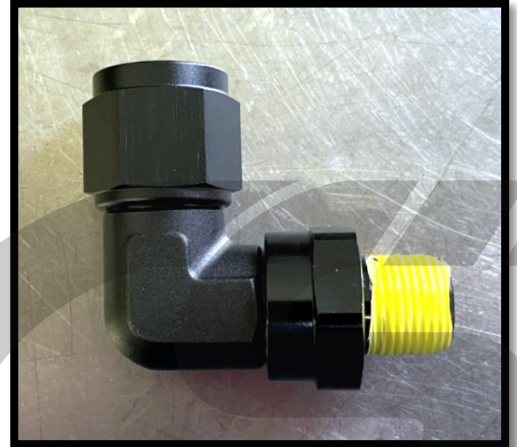

Figure 10b
- b) Locate the supplied 11389 fitting. Apply fuel/oil safe PTFE thread tape or sealant to the threads as shown in **Figure 10b**.